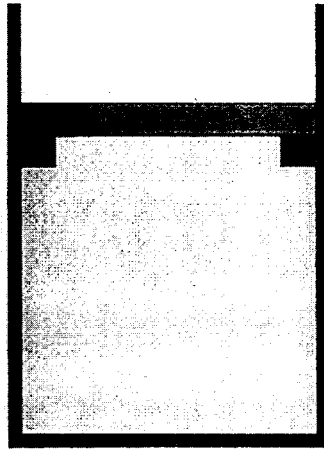

FIGURE Q1: Piston-cylinder device with set of stops
- i. There are **SIX (6)** pages in this Question Booklet including the cover page .
1. A piston-cylinder device initially contains air at 150 kPa, 0.4 m³ and 27°C. At this state, the piston is resting on a pair of stops, as shown in **FIGURE Q1**. Heat is transferred to the air and the piston started to move when a pressure of 350 kPa is achieved. The air is continued to be heated until its volume has tripled.